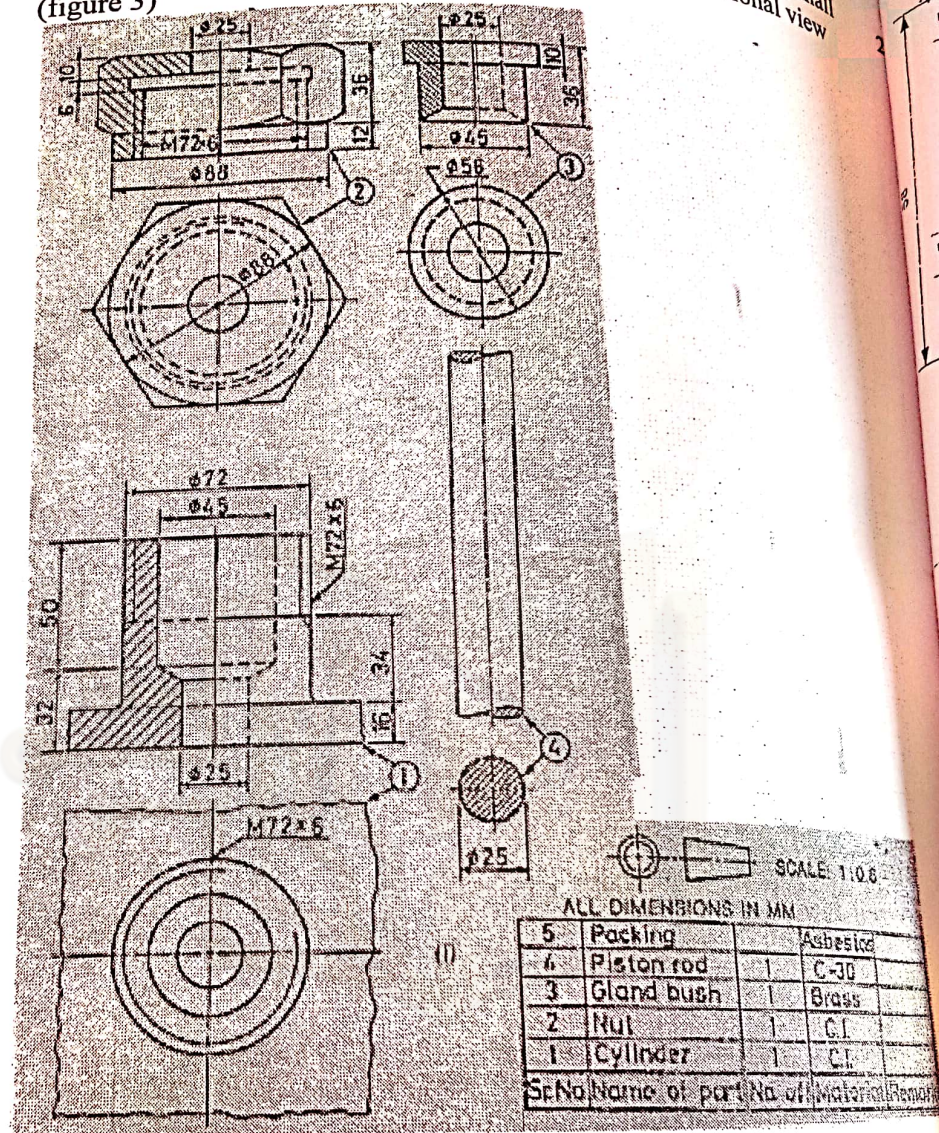

Figure 3
5. Figure below shows the detail drawing of a Stuffing box for a small steam engine. Assemble the parts and draw the half sectional view (figure 3)